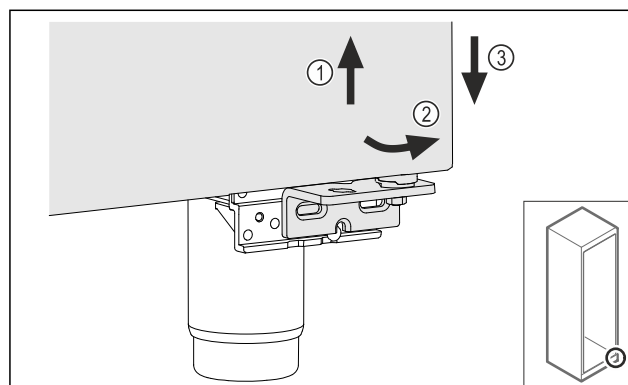

Fig. 14
- Lift the door slightly Fig. 14 (1), tilt it forwards at the bottom Fig. 14 (2) and lower it Fig. 14 (3).